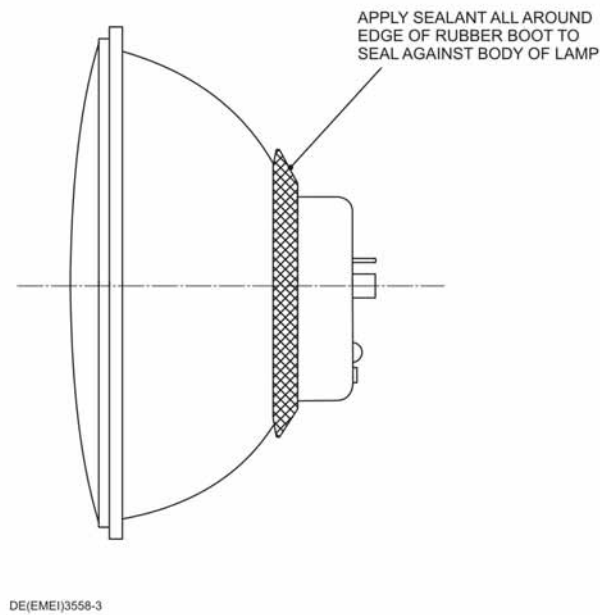

Figure 4 Headlight Fitting
- ee. Remove the headlights, seal them as shown in Figure 4, then refit the headlights to the vehicle.